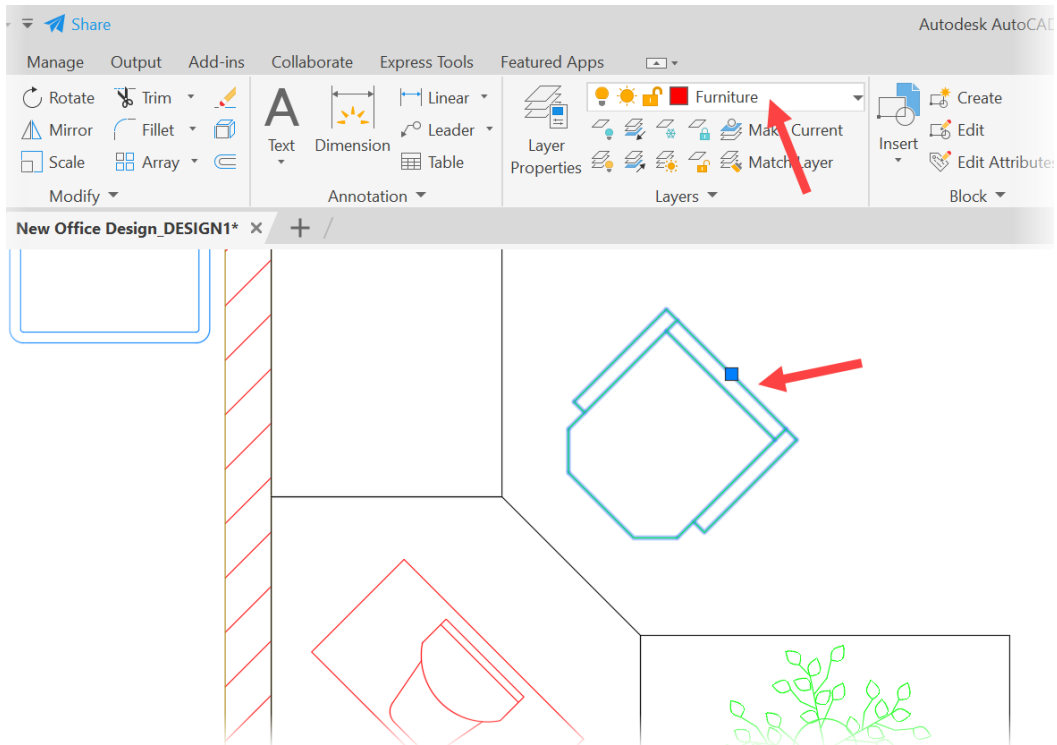

Figure 13.15: The selected chair in the Autodesk desktop application
10. You will see that the chair is on the **Furniture** layer as saved when edited in AutoCAD Web, as shown in *Figure 13.15*.